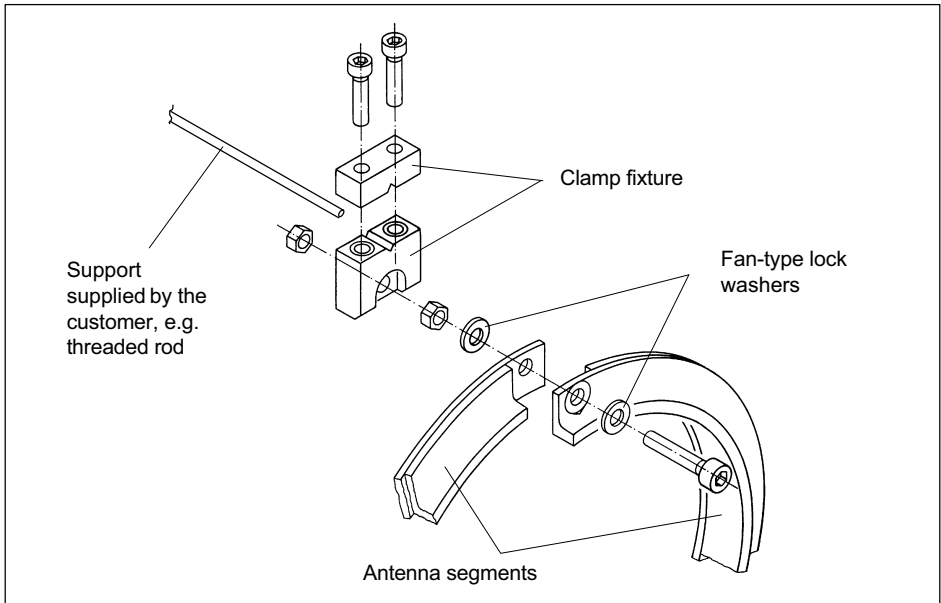

Fig. 6.7 Installing the clamp fixture
2. Fasten the clamp fixture with the enclosed screw fitting as shown in Fig. 6.7. It is essential to use the new fan-type locking washers!